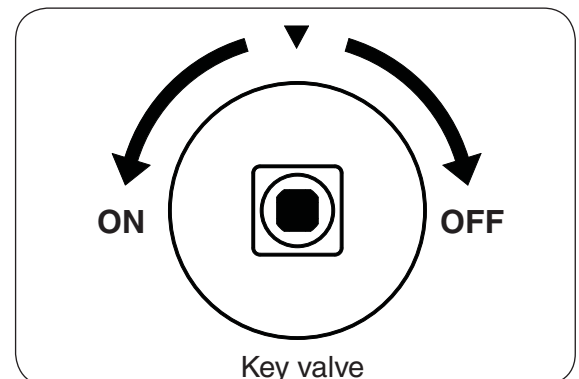

Fig. 21-2
4. **Once the match is burning and in position**, slowly turn the key valve counter-clockwise toward the **ON** position until it no longer rotates (see Fig. 21-2). Your burner should light.
**To extinguish your gas burner**, insert the key into the key valve and turn the valve clockwise toward the **OFF** position until it no longer rotates (see Fig. 21-2). Be sure the control knob is turned fully off to avoid any gas leakage.